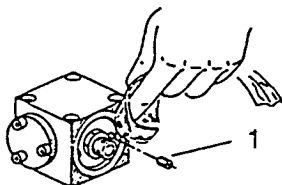

Figure 17
For cleaning the oil system, the compressor units Series BS/CS (not available for BS 44) have been fitted with a run-in oil filter cartridge and a locking screw. After approx. 200 operation hours replace the run-in oil filter cartridge by the standard oil filter cartridge supplied with the unit and make sure to remove the locking screw (1, Figure 17).
- Clean sealing surface at the filter head thoroughly with lint-free cloth. (Figure 17)